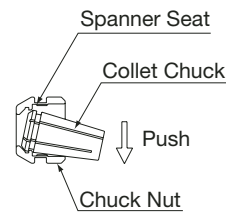

Fig. 26
- (3) Install the new collet in the chuck nut by positioning the collet in the chuck nut and pressing down on a flat surface. (Fig. 26)